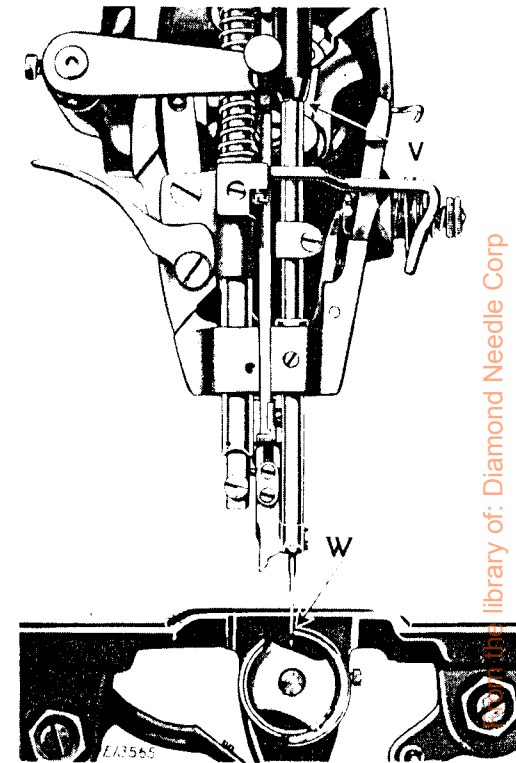
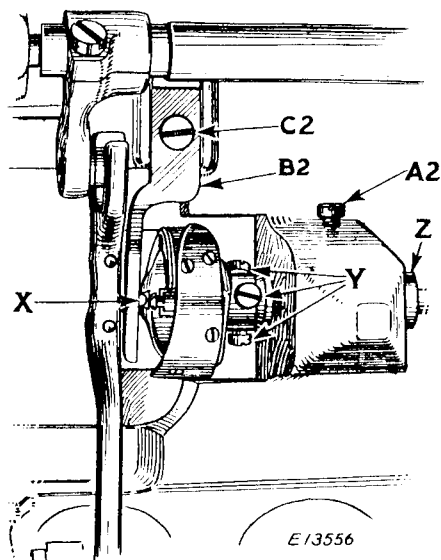
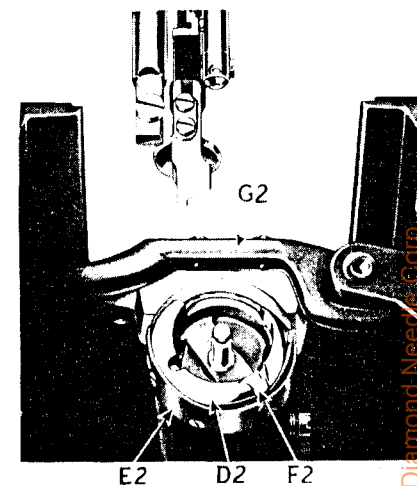

Fig.22 Needle and Sewing Hook Correctly Timed
Fig. 23 View of Underside of Machine Showing Bobbin Case Holder Position Bracket (B2) and Adjustments on Machine
Fig. 24 Showing Correct Position of Thread Guard (E2) and Bobbin Case Holder (D2) for Removal of Sewing Hook
To determine that the hook is correctly timed, place a new needle in the machine, then turn the balance wheel over toward you until the LOWER TIMING MARK on the needle bar is centered with the lower end of the needle bar bushing as shown at (V, Fig.22) when the needle bar is on its upward stroke. With the needle bar in this position, the point of the hook should be at the center of the needle as shown at (W, Fig.22).
In case the hook is not correctly timed, loosen the three screws (Y, Fig. 23) in the hub of the hook. These three screws can be reached from the top of the machine bed through the opening
left by the removal of the throat plate, although, for purposes of illustration, the screws are shown only in the view of the underside of the machine in Fig. 23. Rotating the balance wheel of the machine will bring these screws, one at a time, directly under the throat plate opening where they can be easily reached with a screwdriver from the top of the machine bed.
After loosening the three screws (Y, Fig. 23) turn the hook on its shaft to bring the point of the hook at the center of the needle as shown at (W, Fig. 22), then tighten the three screws (Y, Fig. 23).
The hook should be set as close as possible to the needle without touching. If the hook is too close to the needle or too far away from it, loosen the three screws (Y, Fig. 23) and the bushing screw (A2, Fig. 23) and drive the bushing (Z, Fig. 23) in or out, as may be required, until the hook just clears the needle, being very careful not to damage the bushing, then securely tighten the bushing screw (A2) and the three screws (Y).
Remove the needle, slide plate and bobbin case. Take out the screw (C2, Fig. 23) and remove the bobbin case holder position
bracket (B2, Fig. 23). Loosen the three set screws (Y, Fig. 23) in the hub of the hook, then turn the balance wheel over toward you until the feed bar (G2, Fig. 24) is raised to its highest position. Turn the sewing hook until the thread guard (E2, Fig. 24) is at the bottom, as shown in Fig. 24, and turn the bobbin case holder (D2, Fig. 24) until it is in the position shown in Fig. 24. The sewing hook can then be removed from the hook shaft.
When placing a new sewing hook on the shaft, have the thread guard (E2) of the hook at the bottom and the bobbin case holder (D2) turned to the position shown in Fig. 24, so that the hook will clear the feed bar (G2).
When the hook is in position on the shaft, turn the bobbin case holder (D2, Fig. 24) until the notch (F2, Fig. 24) is at the top, then replace the bobbin case holder position bracket (B2, Fig. 23) being careful to see that the position stud (X, Fig. 23) enters the notch at the top of the bobbin case holder, as shown in Fig. 23,